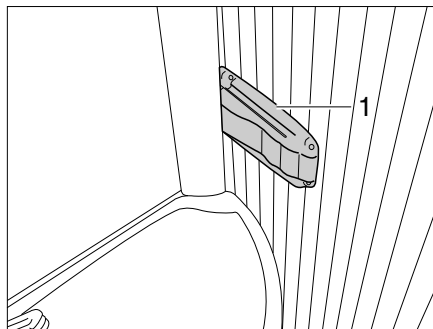

Fig. 358 Vario toilet, locking the shower wall
- Push the latch (Fig. 358,1) right on the edge of the wash basin and lightly pull the wash basin. The wash basin moves forwards with the rear wall.